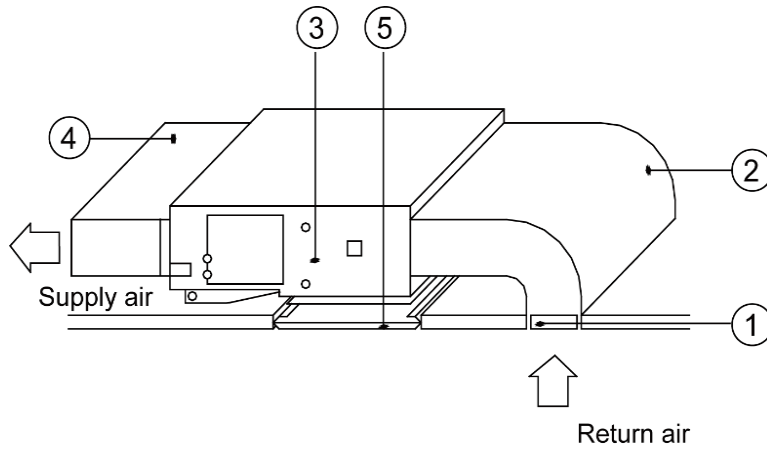

Fig. 23
2. The installation method can be chosen with considering the conditions of the building and maintenance etc., as shown in Fig. 23.